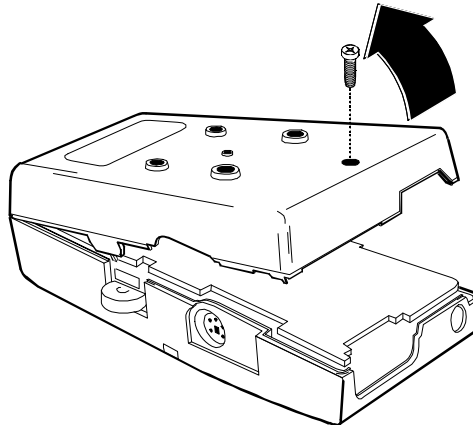

Figure 22: Easy Fit unit, cover removal
2. (Figure 22) Remove the back cover from the unit by removing the cover securing screw.